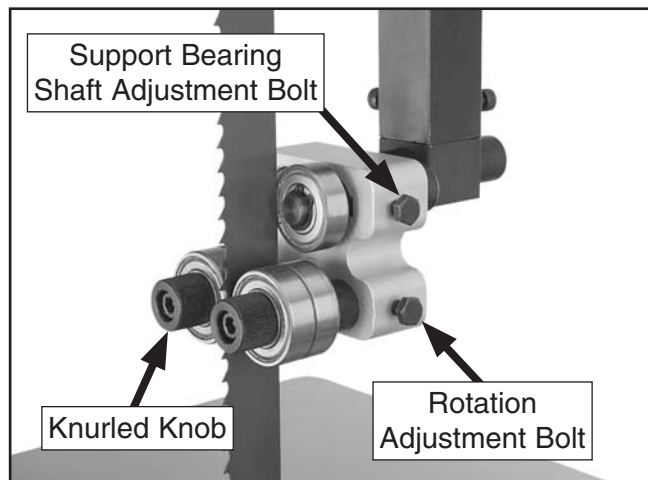

Figure 40. Front upper blade guide controls (blade guard removed for photo clarity).
4. Familiarize yourself with the upper blade bearing controls shown in **Figures 40–41**.
5. Loosen the rotation adjustment bolts on both sides of the blade (**Figures 40–41**).
6. Rotate the knurled knobs (**Figure 40**) to position the bearings as close to the blade as possible without touching it.